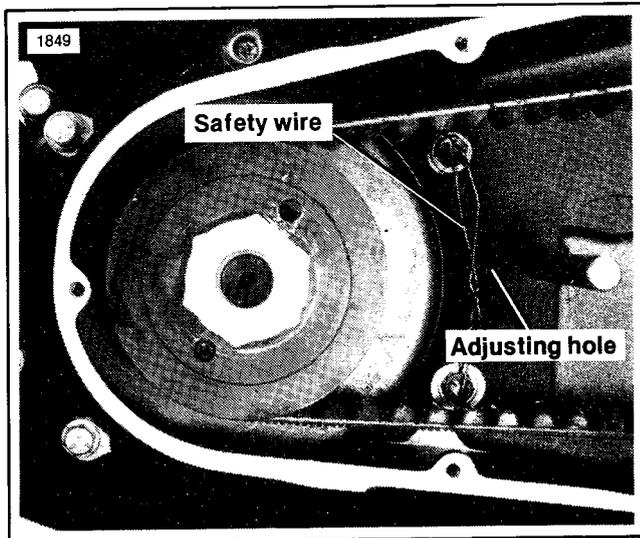

Figure 1. Safety Wire
2. See Figure 1. Cut and remove safety wire, loosen four 5/16 in. dia. bolts securing primary case to crankcase.
6. See Figure 1. Install a new safety wire through inside bolts.